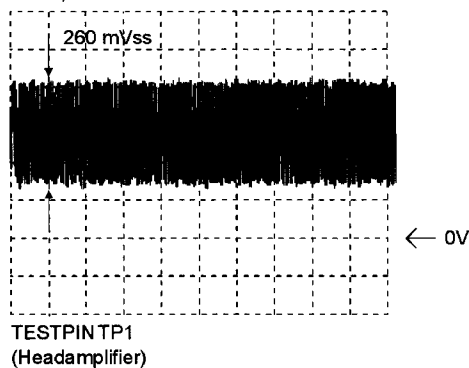

Fig. 2
- Adjust resistor 3099 for a signal amplitude of (Fig.2) :